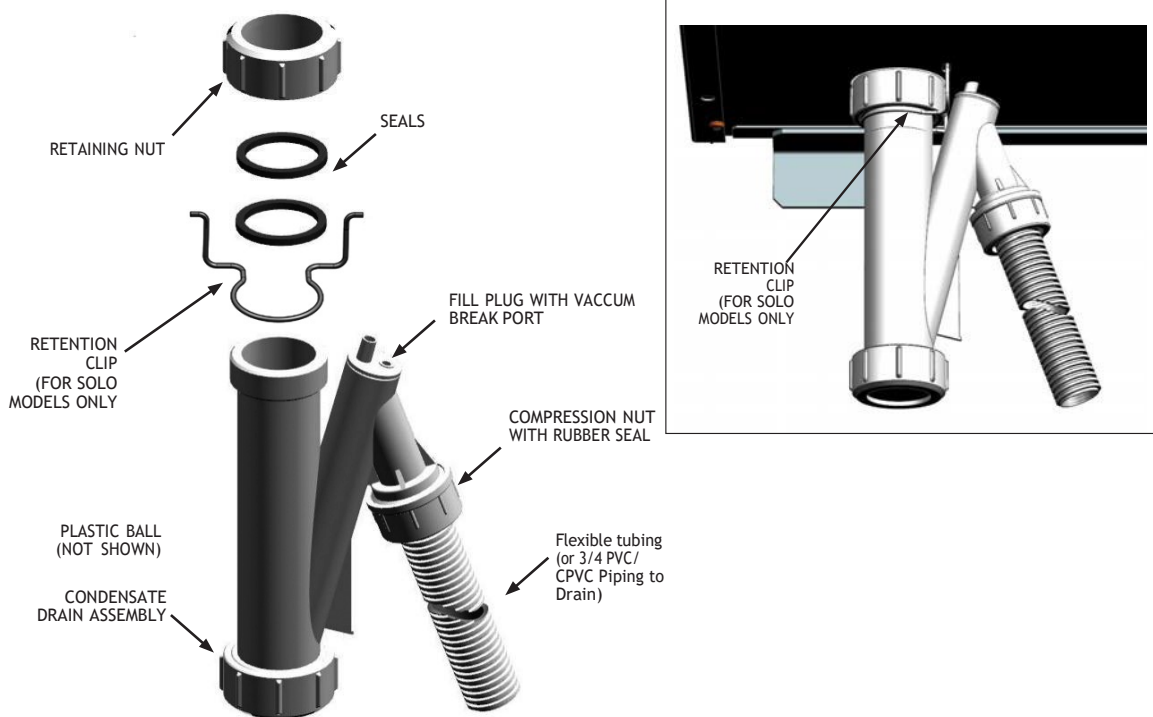

Fig. 24 - Condensate Drain Assembly
1. Locate the condensate drain assembly and ensure the seals are installed as shown in Fig. 24 on page 38.